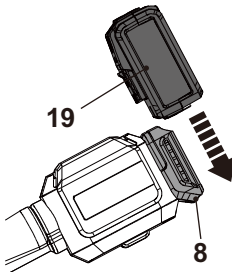

Fig. 10
1. Align the battery pack (19) with the sliding slots of the battery docking port (8) and slide the battery pack in to attach it. Ensure it clicks in place (Fig. 10).